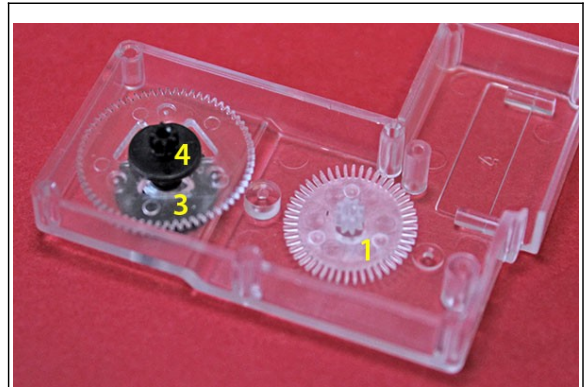

Fig. 65: Gear #1 installed.
- ☐ Fig. 65 shows the four primary gears correctly installed. Notice how gear #3 is positioned above gear #2 and below the metal retainer. Also notice how gear #3 meshes with the small gear on #2, and how gear #2 meshes with the small gear on #1. The pointed shaft on the armature gear will fit into the hole to the right of gear #1, and the armature gear will mesh with the long teeth on gear #1.